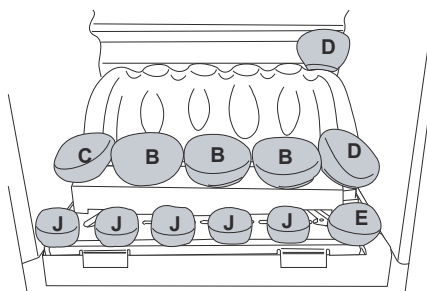

Figure 32
4. Insert the **J & E** pebbles centrally onto the spikes and place the **B, C & D** pebbles on the middle matrix ensuring the same orientation as shown in **Figure 32**.